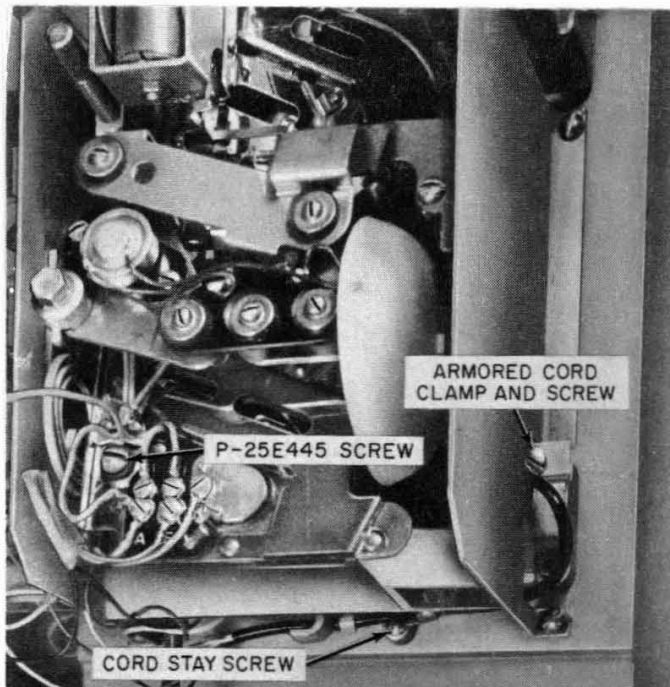

Fig. 6—Location of Cord Stay Screw and Cord Clamp
- (3) Loosen P-25E445 screw in lower left corner of chute assembly (Fig. 6). Exercise care not to lose P-12A681 spring located under screw head.
- (1) Remove gong signal and chute assembly (2.04).
- (2) Disconnect handset leads from TB4.
- (3) Loosen cord stay screw (Fig. 6).
- (4) Remove screw and cord clamp from armored cord.
- (5) Pull cord out front of cover.
- (6) Install, using reverse procedure.